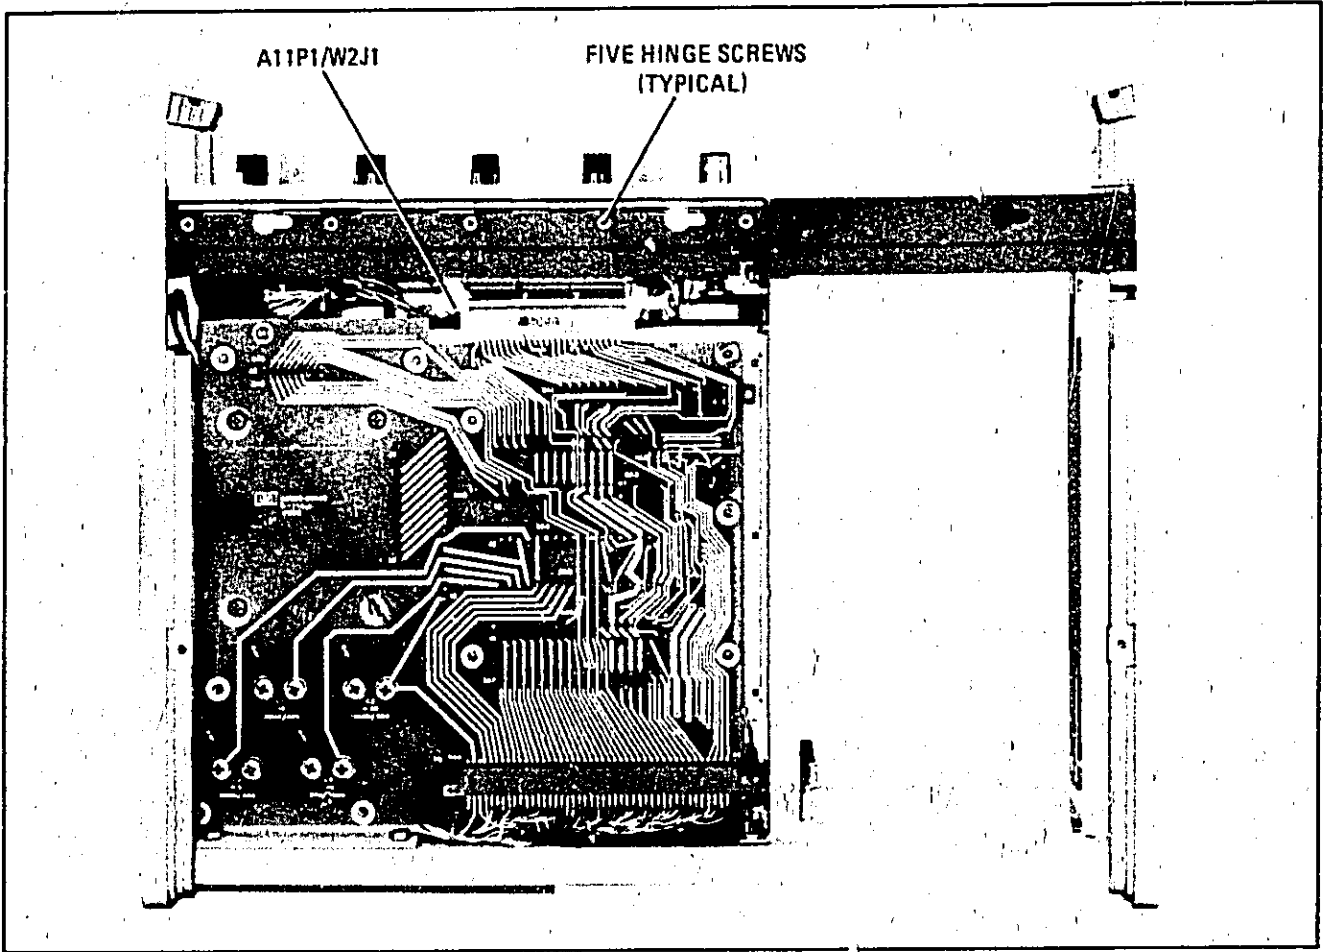

Figure 8-1. Removing Hinged Front Panel Assembly From Mainframe
a. Remove bottom cover, plastic filler strip, and five screws used to secure hinged front panel to mainframe (Figure 8-1).